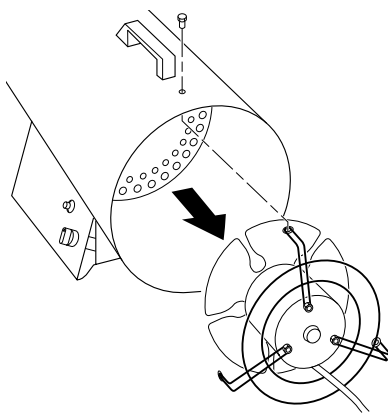

Figure 11 - Removing Motor and Fan Guard from Heater
2. Remove motor and fan guard from heater shell (see Figure 11).